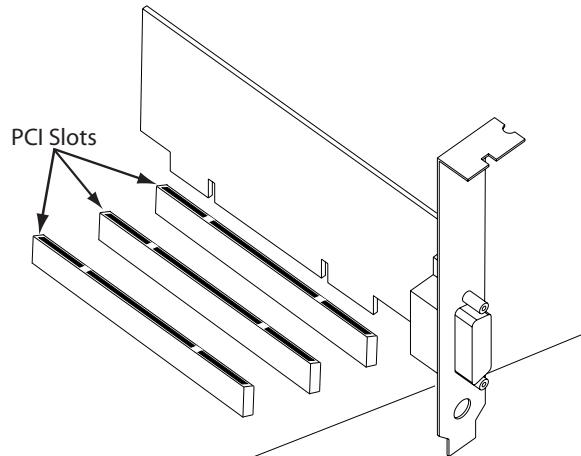

Figure 2.1: Installing the SST-64P PCI Adapter
- 2. Locate an available Peripheral Component Interconnect (PCI) slot (see Figure 2.1).